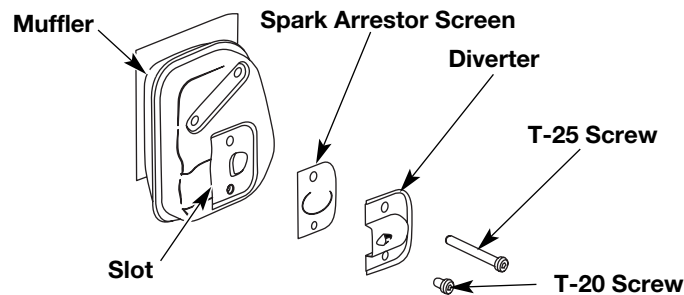

Fig. 32
2. With a flat blade screwdriver or Torx T-20 bit and a T-25 bit, remove the screws attaching the spark arrestor cover to the muffler (Fig. 32).